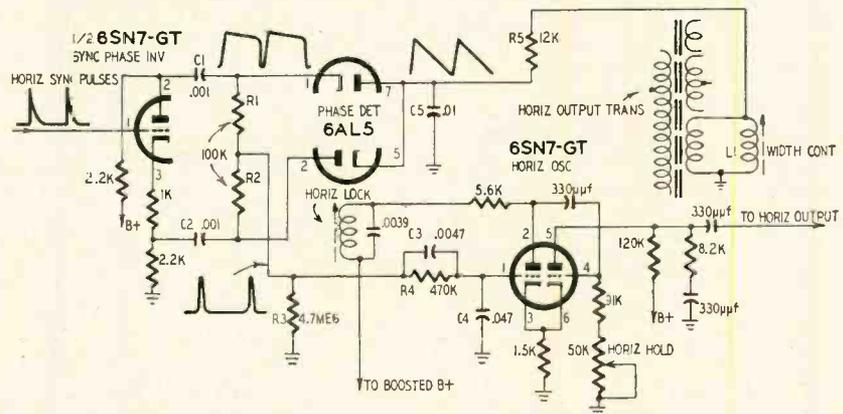

Fig. 4—Diagram of diode phase detector automatic frequency control circuit.
1. *Phase detector* (Fig. 4). In this system, a square wave is taken from the horizontal output circuit and integrated (fed through R5-C5 with the output taken across the capacitor). The resultant sawtooth wave is applied to one plate and one cathode of a dual diode (pins 5 and 7 of a 6AL5). Positive horizontal sync pulses are applied to the other diode plate (pin 2) and negative horizontal sync pulses to the other cathode (pin 1) of the 6AL5. When the sync pulses and sawtooth are the same frequency and in phase, no a.f.c. output voltage is developed. When the horizontal sawtooth is at a different frequency or out of phase compared to the sync pulses, one or the other of the diodes conducts. Either a positive or a negative d.c. voltage is then developed at the grid of the horizontal oscillator.
4. *Triode phase detector* (Fig. 7). The general operation of this circuit is similar to the phase detector of Fig. 4. A triode is used instead of a dual diode. The negative horizontal sync pulse input is applied to the cathode of the phase detector. The horizontal sweep waveform is applied to the plate. When the frequency is too low, the sawtooth voltage at the plate is negative when the sync pulse is applied to the cathode. The grid draws current, producing a negative voltage at the phase detector grid. The grid and cathode act very much as a diode rectifier circuit. The pulsating negative voltage is filtered by the R-C circuit connected to the phase detector grid and the resulting negative d.c. voltage is applied to the oscillator grid, increasing the frequency to the original value.
Horizontal bend can be caused by an unbalance of horizontal sync pulses to the phase detector tube (pins 1 and 2, Fig. 4). To check for unbalance note the peak-to-peak amplitude of incoming
In some cases, manufacturers have recommended modifications of the a.f.c. circuit to improve stability. For example, two of the many causes of horizontal bend are insufficient filtering of the d.c. correction output voltage from the a.f.c. stage and poor choice of capacitor value at various points in the a.f.c. circuit. If there is a bend or hook in the top of the picture in a receiver with a phase detector, triode phase detector or Synchrolock circuit, it may be helpful to change the output filter capacitor from .05 to 0.1 μf (C4, Fig. 4; C2, Fig. 6; C2, Fig. 7). Increasing the value of this capacitor improves the filtering of the d.c. control voltage of the a.f.c. system.
2. To minimize erratic horizontal sync (flagging at the top of the picture), change C1, C2 (Fig. 4) to 500 μf .
In Fig. 4, the anti-hunt circuit C3, R4 operates with R1, R2, R3 and C4 to develop the output correction voltage. This is true in all a.f.c. systems. The